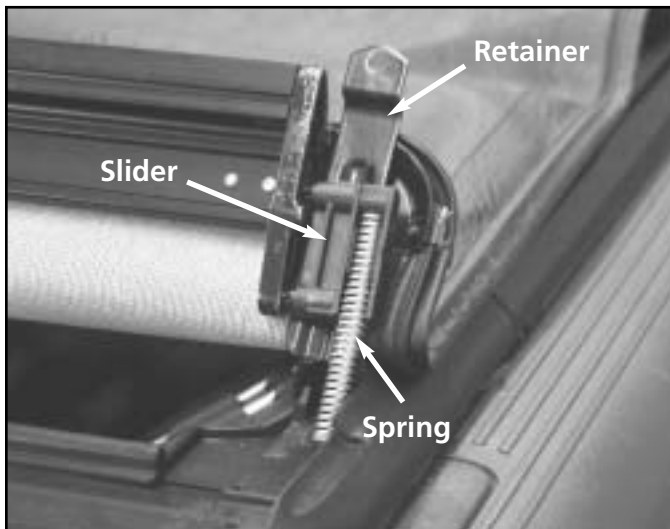

Figure S-69
21. Fold the cover down over the motor cover and install the slider, slider spring and slider retainer on both sides. Refer back to figure S-69.